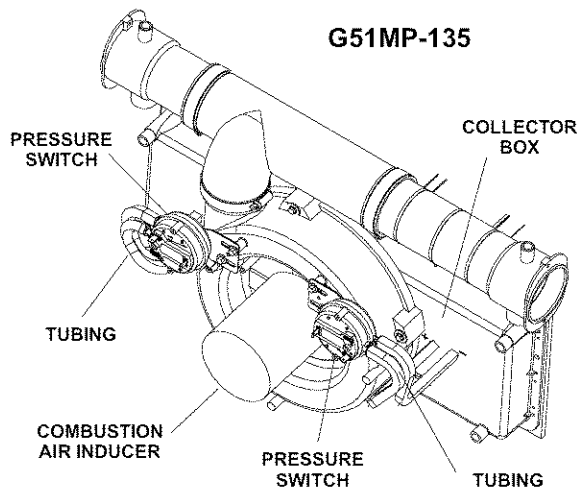

FIGURE 2
6 - All units installed at altitudes above 7,500 ft. (2286m) require a replacement pressure switch assembly. See table 1 for the proper switch assembly. Refer to figure 2 for pressure switch location.
- c - Securely attach flexible tubing to fitting on replacement pressure switch assembly(ies). See figure 2.